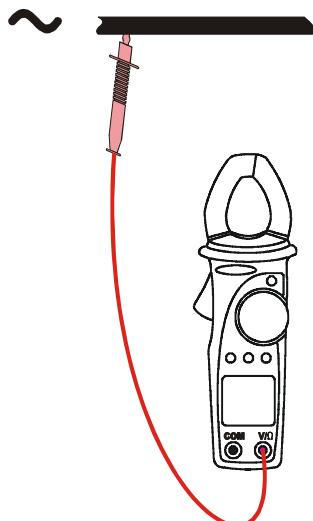
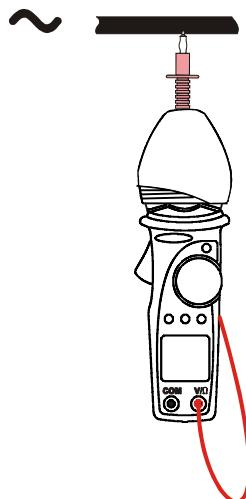

Fig. 16: Voltage detection
Fig. 17: Voltage detection with rubber cup
3. Connect the red terminal to the L1 phase conductor (see Fig. 16, 1st measurement). If necessary use the rubber cup to insert red test lead (see Fig. 17, 1st measurement).